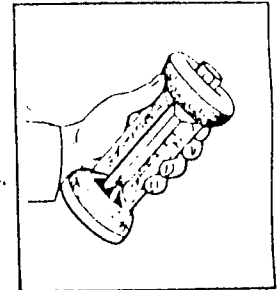

Figure 4
3. Turn upright. Hold FYRITE at 45° angle (Fig. 4) momentarily to allow fluid droplet drainage into bottom reservoir.